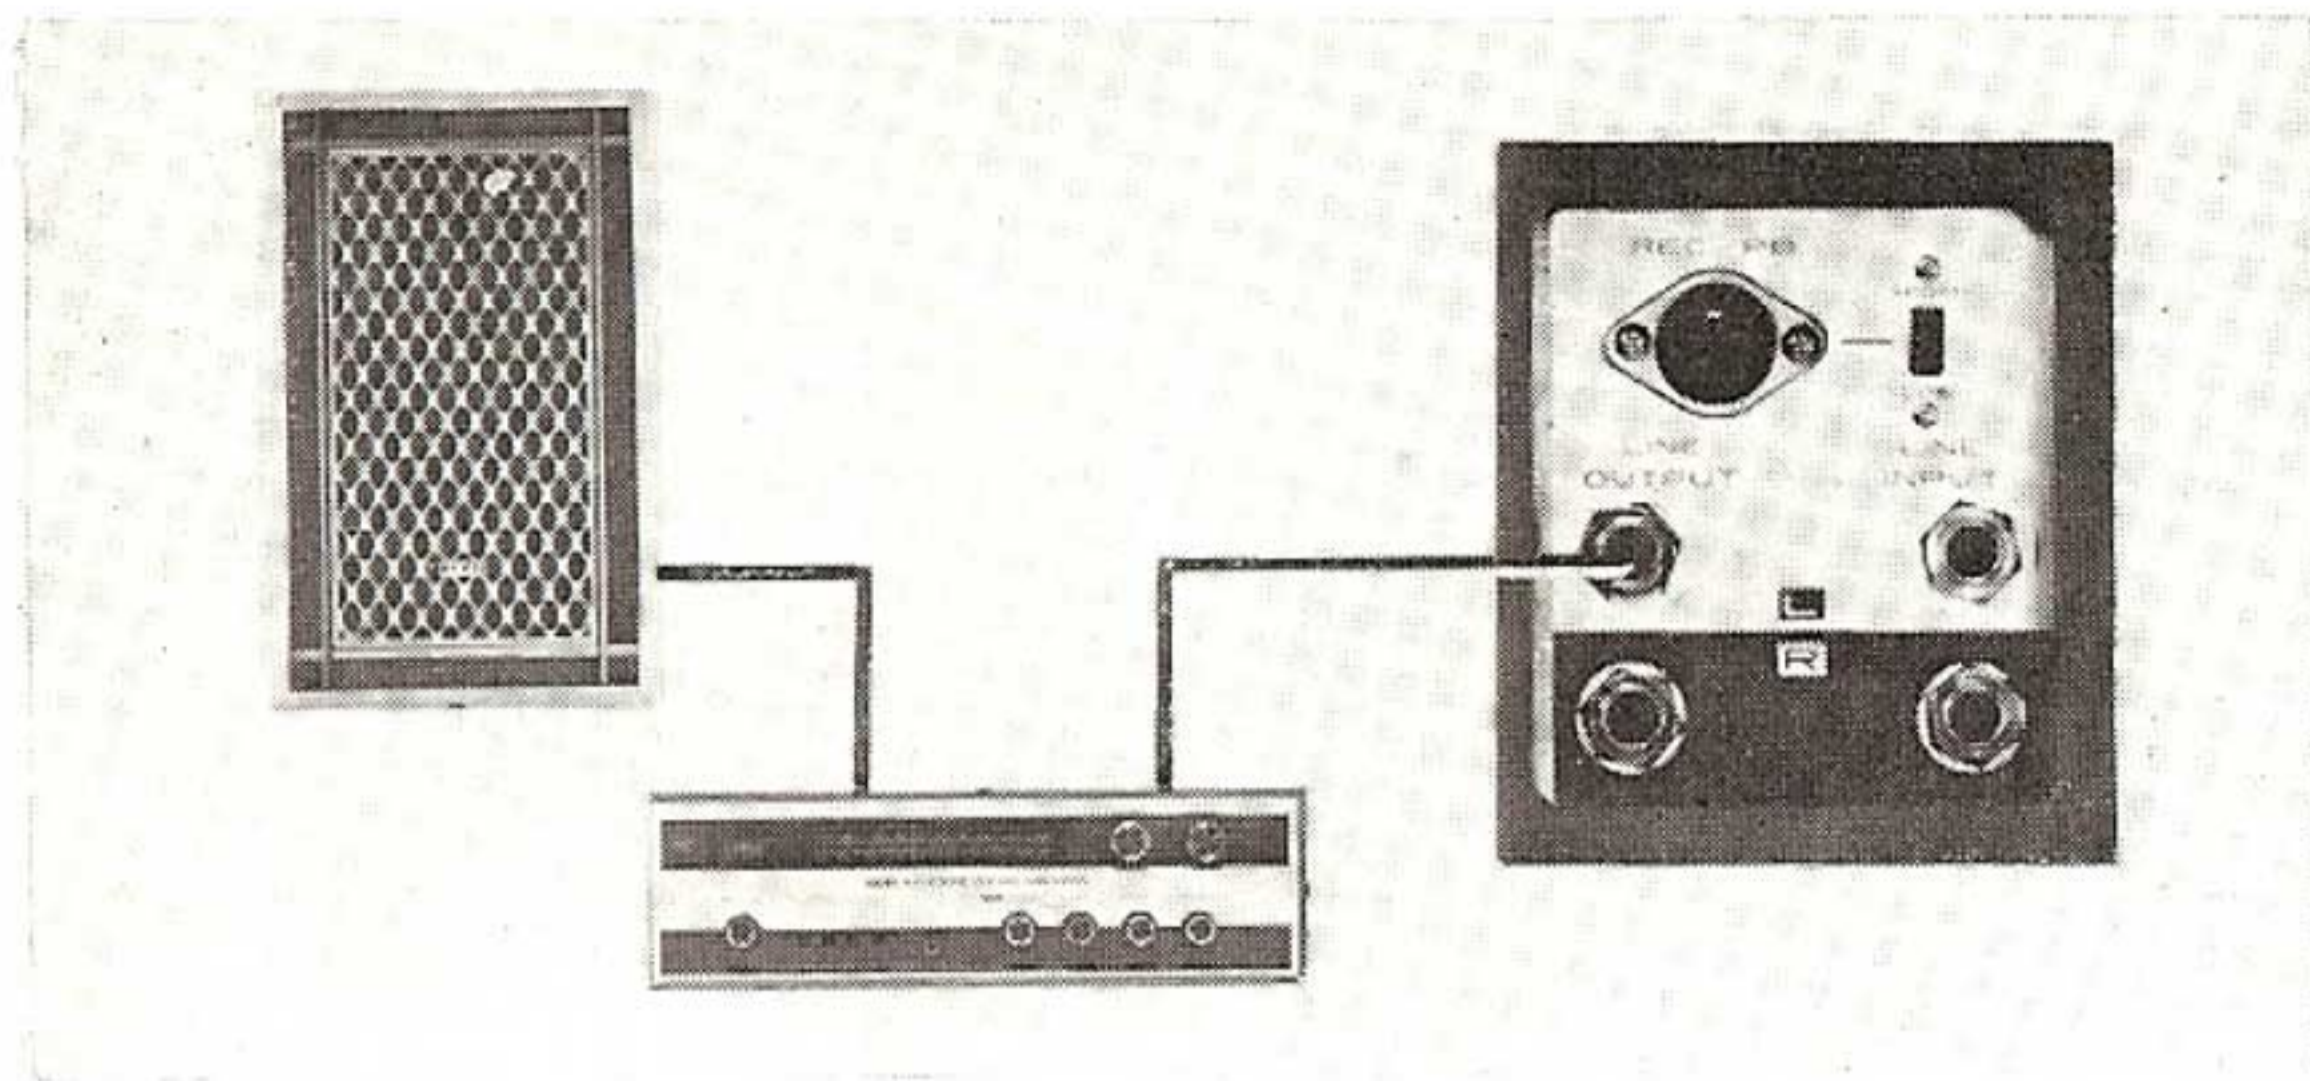

Fig. 30
- (E) Connect LINE OUTPUT JACK (LEFT) ④ to TAPE INPUT or AUX INPUT JACK of external amplifier. Also connect a loud speaker to the power amplifier. (See Fig. 30)
- (F) Set RECORD/PLAYBACK KNOB ⑳ to "PLAY".